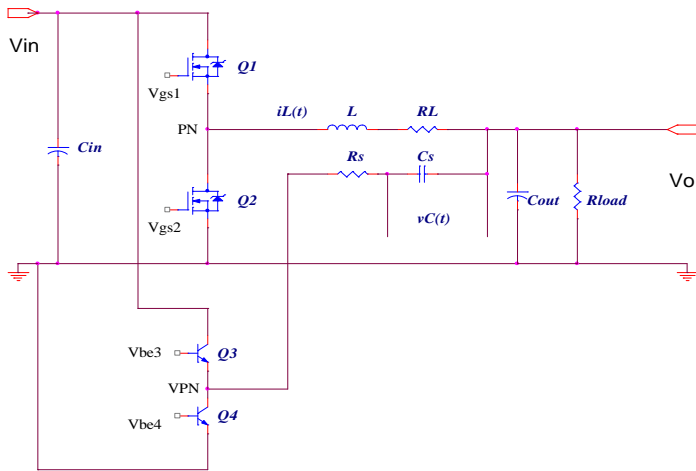

Fig.1 The Basic Structure of Combi-Sense.
The basic structure of the Combi-Sense is shown in Fig.1. Where R_L is the equivalent resistance of the output inductor. The added R_s and C_s form the RC branch in “parallel” with the output inductor for inductor current sensing. This branch works with a small signal totem pole (Q3 and Q4) integrated in SC4510 in order to improve the signal-to-noise ratio. The base signals Vbe3 and Vbe4 are designed to closely follow the gate signals Vgs1 and Vgs2, respectively. Ideally, the leading and falling edges of the Virtual Phase Node (VPN) follow that of the Phase Node (PN) when Q1~Q4 switch in perfect synchronism.
When Q1/Q3 turn ON and Q2/Q4 turn OFF, the equivalent circuit of Fig.1 is shown in Fig.2 a). Where, R_{ds1} is the on-resistance of the top MOSFET. The two branches, consisting of $\{(R_{ds1}+R_L), L\}$ and $\{R_s, C_s\}$, are in parallel. The DC voltage drop $(R_{ds1}+R_L)I_o$ equals V_{cs} . In this way, the output current is sensed from V_{cs} when $(R_{ds1}+R_L)$ is known.
When Q1/Q3 turn OFF and Q2/Q4 turn ON, the equivalent circuit of Fig.1 becomes the sub-circuit as shown in Fig.2 b). Where, R_{ds2} is the channel resistance of the bottom MOSFET. In this case, the branch $\{R_s, C_s\}$ is in parallel with $\{(R_{ds2}+R_L), L\}$ and $V_{cs}=(R_{ds2}+R_L)I_o$.
In SC4510, the current limiting is performed on cycle-by-cycle basis. When the voltage difference between CS+ and CS- exceeds 65 mV, the top MOSFET duty ratio is clipped in order to limit the output source current. Similarly, when the voltage difference between CS- and CS+ exceeds 113 mV, the bottom MOSFET duty ratio is clipped in order to limit the sink current. For the configuration in Fig.1, the converter output current limit is set around